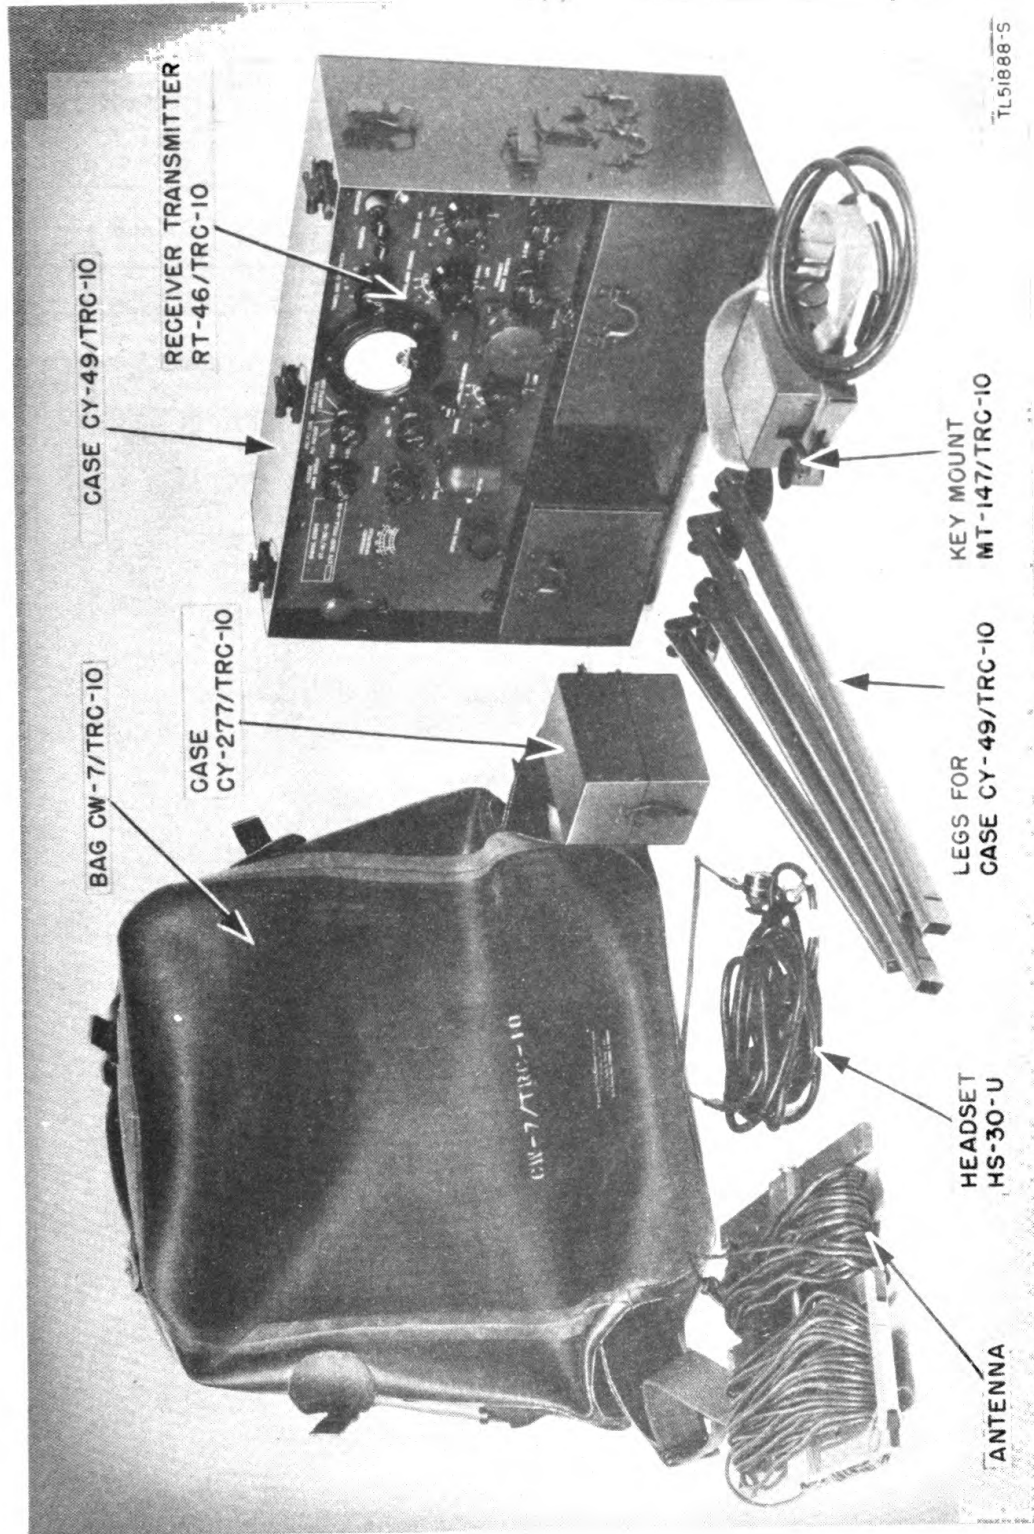

Figure 10. Bag CW-7/TRC-10 and contents.
(1) Bag CW-7/TRC-10 (fig. 10).